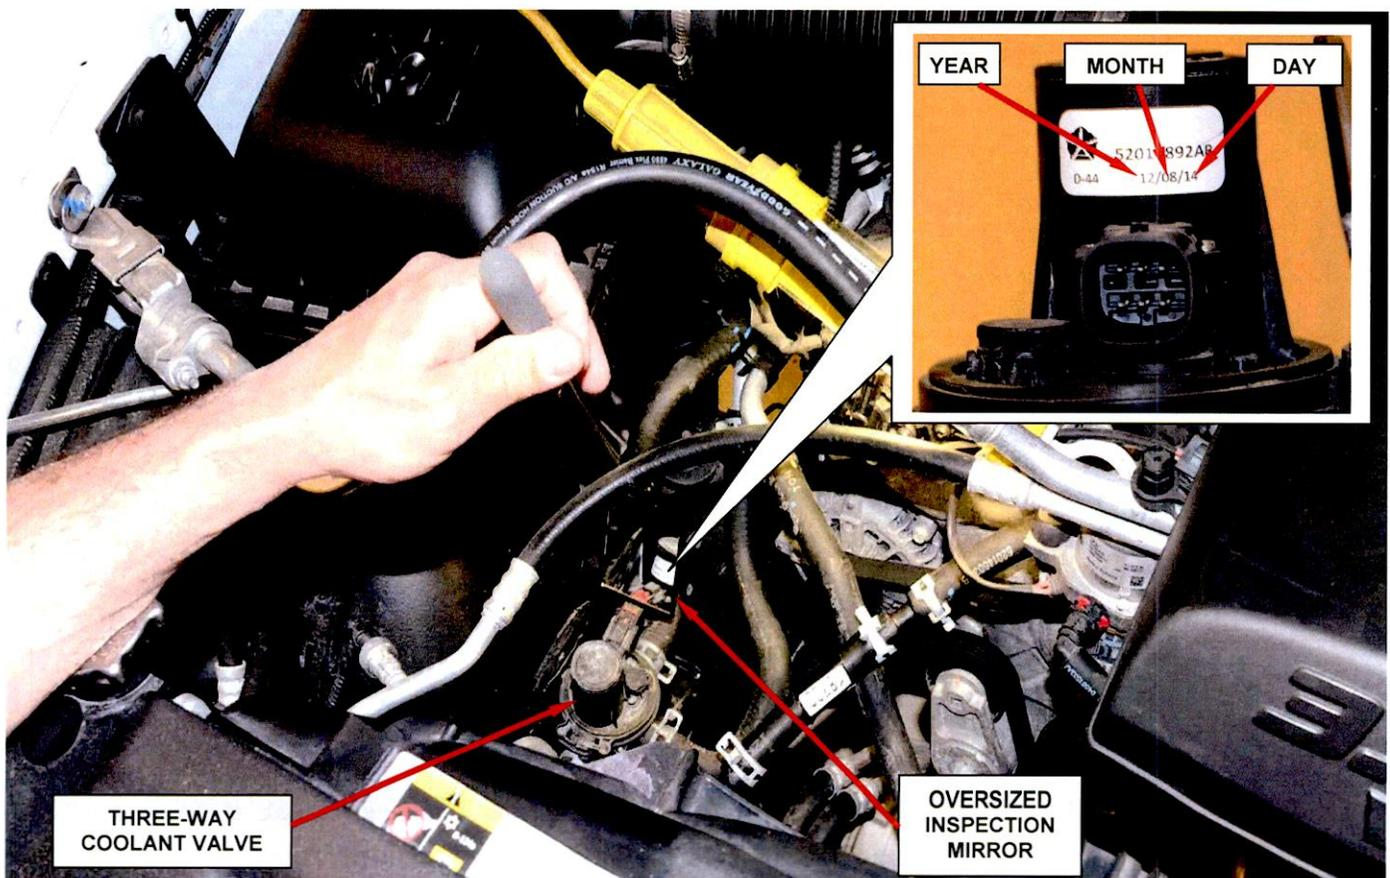

Figure 1 – Using an Oversized Inspection Mirror, Read the Date Code on the Three-Way Valve
3. Using an oversized inspection mirror, inspect the date code on the white information label (Figure 1 and 2):
4. If the build date on the three-way coolant valve white information label (Figure 1 and 2):